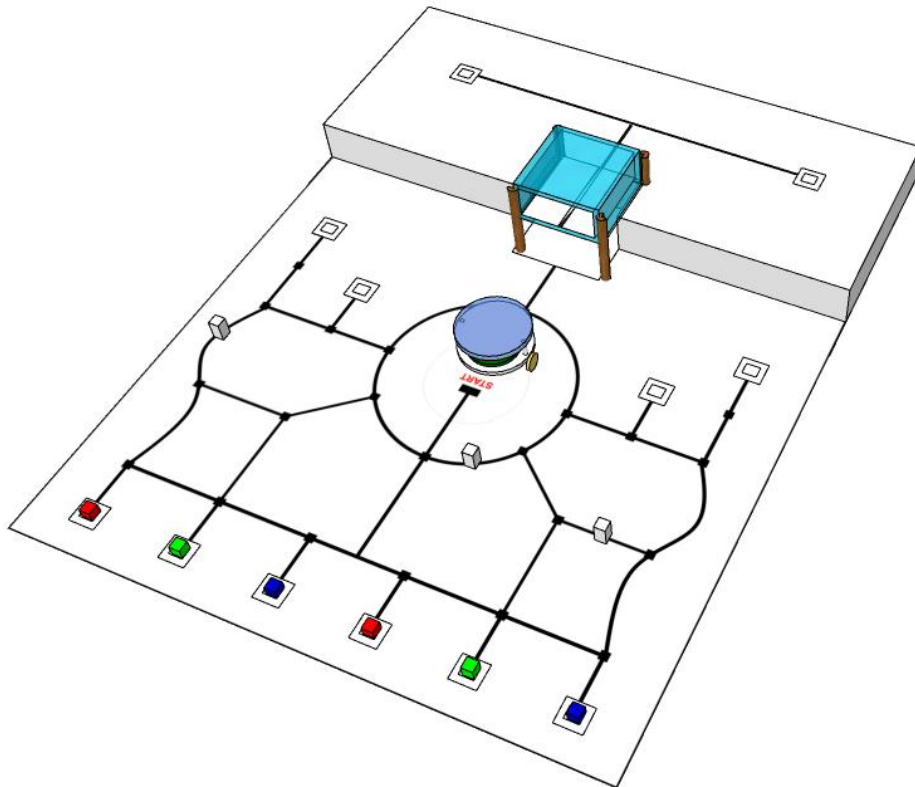
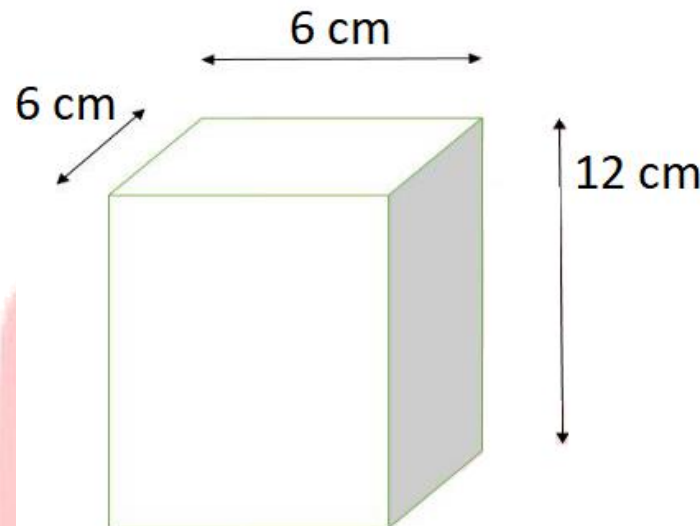

Figure 9a: Side view of placement of colored Nuts on the arena
Figure 10: Dimensions of the Obstacle
- Team cuts the flex along the dotted line to prepare two levels for the arena as shown in Figure 9a and 9b.
- Any color Nuts can be placed at any pick up point (Refer Figure 9a, 9b and 9c).
- Final arena will look like Figure 9a and 9c.
- Dimension of the obstacles are 6cm x 6cm x 12cm as shown in the Figure 10.
- Teams need to prepare Three (3) such obstacles from thermocol.
- Obstacles are to be placed in the 3 places as shown in Figure 9a.